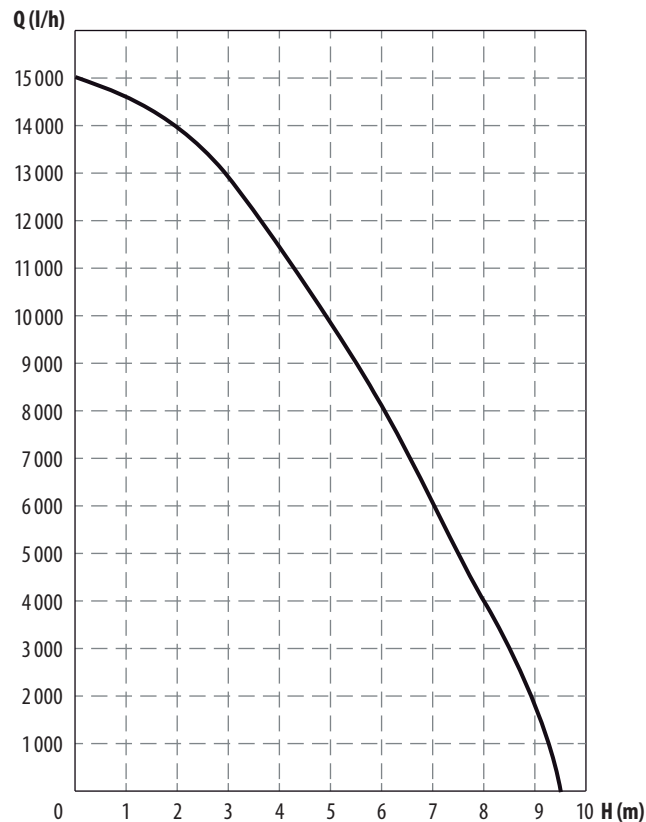

Fig. 2
- ¹⁾ The flow rate graph (fig. 2) shows the dependence of the flow rate on the delivery height. The lower the delivery height, the greater the flow rate. The specified max. flow rate is determined under ideal conditions, where factors that reduce it are eliminated in order for the flow rate to be comparable with other pump models. The flow rate / delivery height, likewise, depends on the length of the delivery hose, where 10 metres of the delivery hose in horizontal position is equivalent to approx. 1 metre of delivery height. The flow rate is reduced by hose connection fittings or hose ends (adapters) because they have a smaller internal diameter than the hose.